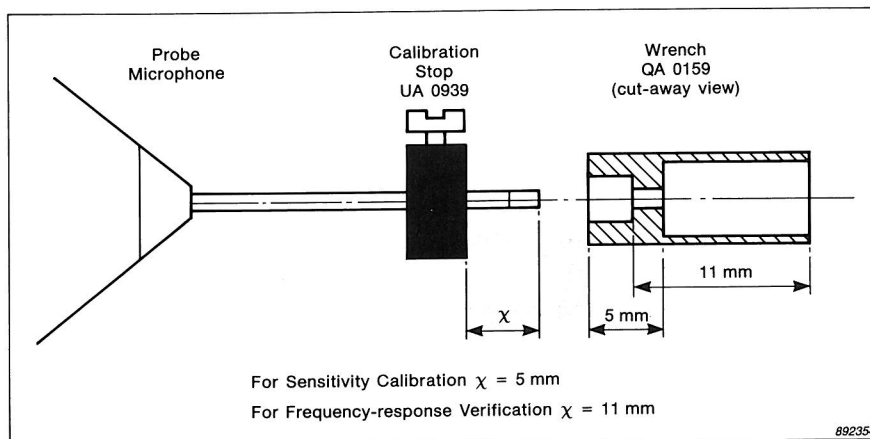

Fig. 3.4. Wrench QA 0159 can be used to set the correct distance between the calibration stop and the probe tip
The Wrench QA 0159 can be used to set the correct distance as shown in Fig. 3.4.
6. Fit the selected probe tube to the probe microphone. To position a stiff tube correctly, clamp the Calibration Stop UA0939 to the tube, 11 mm from the tip (the Wrench QA0159 can be used to set the correct distance as shown in Fig.3.4). To position a flexible tube, mark it with a pen.
4. Fit the selected probe tube to the probe microphone. To position a stiff tube correctly, clamp the Calibration Stop UA0939 to the tube, 11 mm from the tip (the Wrench QA0159 can be used to set the correct distance as shown in Fig.3.4). To position a flexible tube, mark it with a pen.